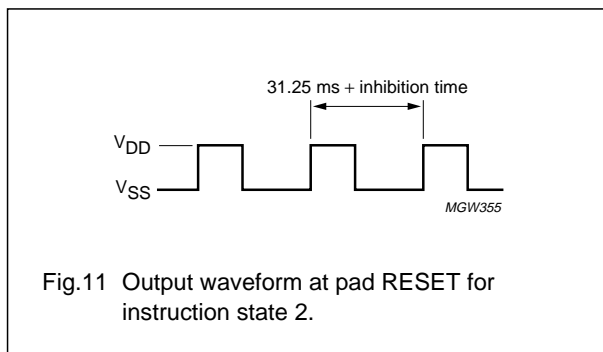

Fig.11 Output waveform at pad RESET for instruction state 2.
- State 2: inhibit time (see Figs 11 and 12); a signal with periodicity of 31.25 + n × 0.122 ms appears at pad RESET and as current modulation at pad VDD.